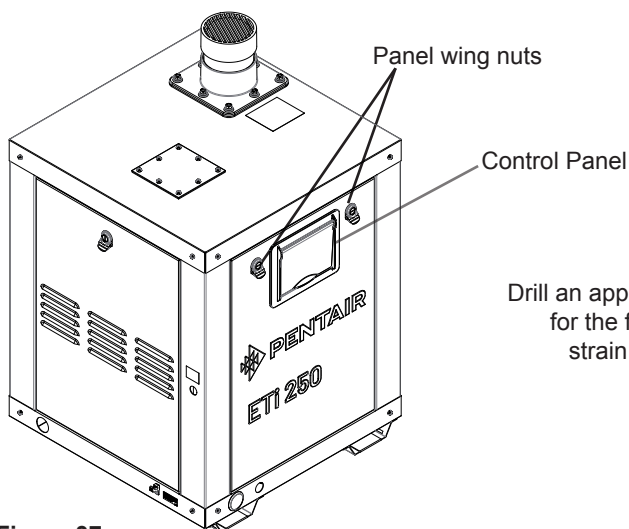

Figure 37.
1. Release the two wing nuts that secure side panel. Remove the panel from the heater. **See Figure 37.**
9. Secure the panel with the two (2) retaining screws. Close the front door and secure with the latch. See Figure 37 on page 45.